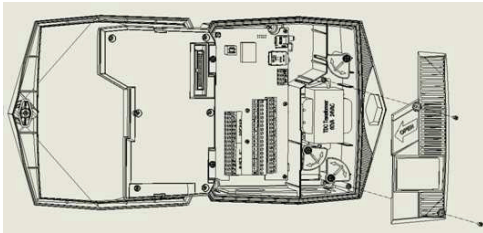
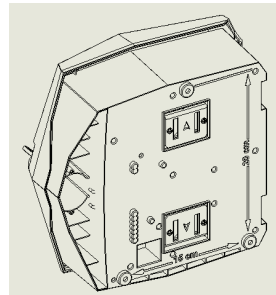
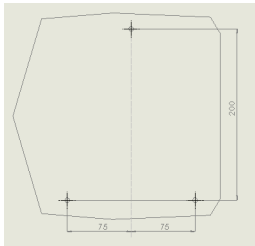

Figure 3: Opening the Internal Casing
Figure 4: Mounting Screw Holes on Back of Unit
Figure 5: Mounting Screw Holes Dimensions
3. For the internal casing on the right side, unscrew the two screws and open the casing (Figure 3). Mount the controller to the wall or to the control cupboard through the marked holes (Figure 4 and Figure 5) with the aid of the three screws. Close the screws by hand only.
3. For the internal casing on the right side, unscrew the two screws and open the casing (Figure 3).